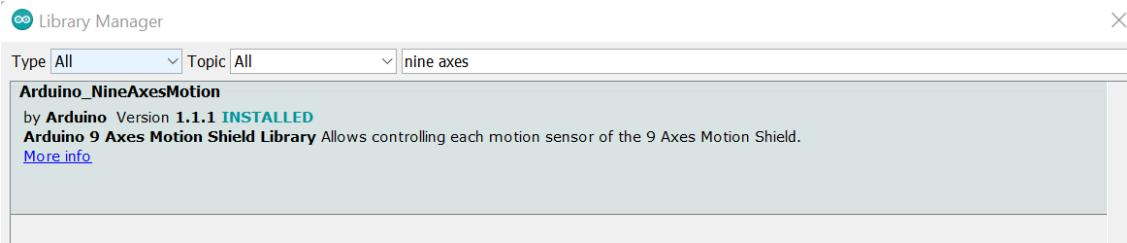

Figure 5: Library to install
3. After a few seconds, a new window appears. In the search zone, write **nine axes**. Download the library `Arduino_NineAxesMotion` as shown in Figure 5